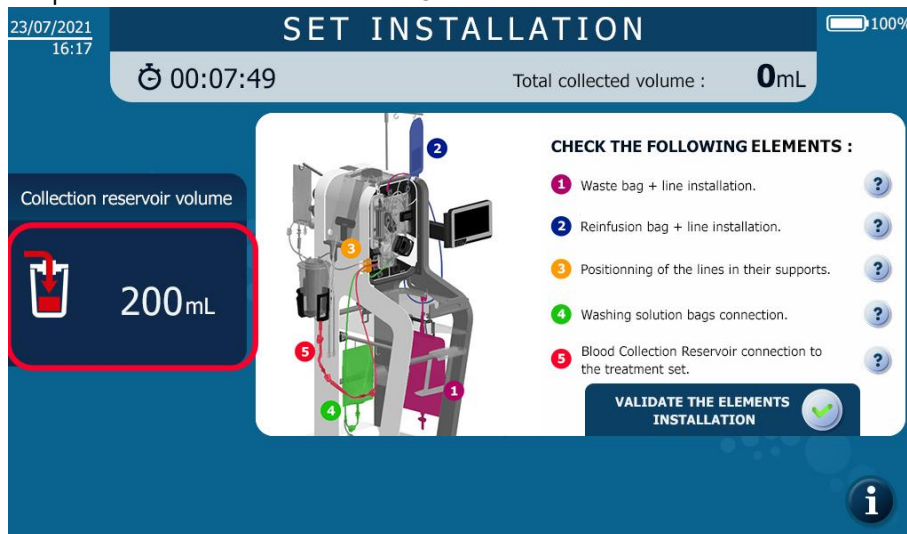

Figure 101: Monitoring the Reservoir priming
- With the vacuum system running, open the flow regulator on the Anticoagulant Line and allow approximately 150 to 200 ml of anticoagulant solution to be extracted into the Reservoir before starting to salvage the blood (see Figure 101). This volume should ensure adequate moistening of surfaces in contact with the blood.